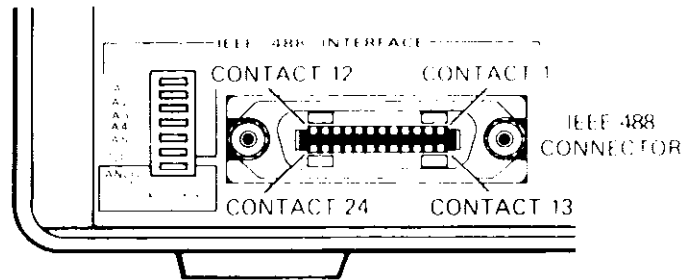

Figure 4-4. IEEE Contact Configuration
3. Bus Connections. The Model 181 should be connected to the bus with a suitable IEEE cable and connector. The IEEE connector on the unit is on the rear panel next to the primary address switches as shown in Figure 4-4. Note that the maximum cable length for any IEEE device is normally 20 meters. If many devices are connected to the bus, shorter cable lengths may be required. The Keithley Model 7007 IEEE cable is ideal for connecting the instrument to the bus.
Contact designations for the rear panel IEEE connector (J1006 on schematic number 30583) are listed in Table 4-1. Both the IEEE-488-1978 conventions and Keithley designations are shown in the table. For contact identification, refer to Figure 4-4. Contact 1 through 12 are along the top of the connector in sequence, while contacts 13 through 24 appear along the bottom edge.